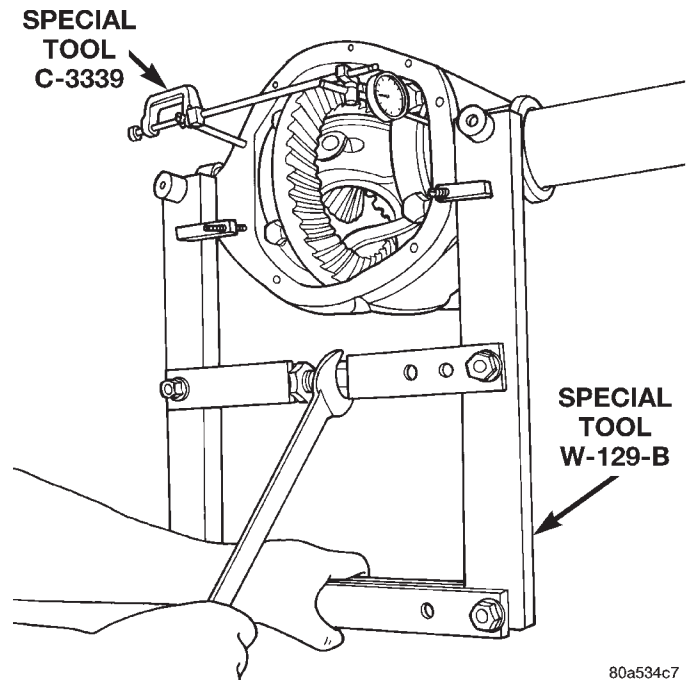
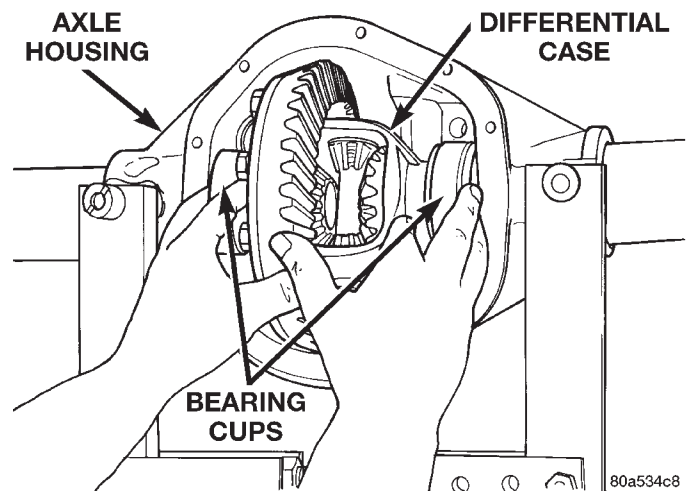
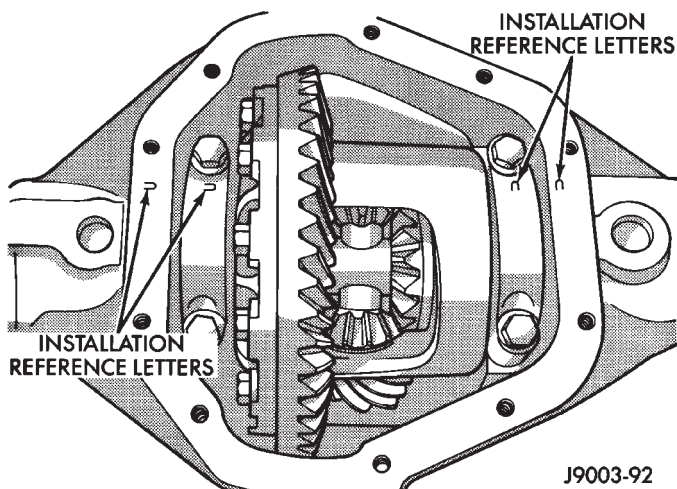

Fig. 34 Spread Axle Housing
Fig. 35 Differential Case Removal
Fig. 37 Differential Bearing Cap Reference Letters
(9) Spread the housing enough to remove the differential case from the housing. Measure the distance with the dial indicator (Fig. 34).
(10) Remove the dial indicator.
(11) While holding the differential case in position, remove the differential bearing cap bolts and caps.
(12) Remove the differential from the housing. Ensure that the differential bearing cups remain in position on the differential bearings (Fig. 35).
(3) Spread the housing enough to install the case in the housing. Measure the distance with the dial indicator (Fig. 34).
(4) Remove the dial indicator.
(5) Install differential case in the housing. Ensure that the differential bearing cups remain in position on the differential bearings and that the preload shims remain between the face of the bearing cup and the housing. Also verify that the pick-up opening of the Vari-lok™ plenum is at the bottom of the housing. Tap the differential case to ensure the bearings cups and shims are fully seated in the housing.
(6) Install the bearing caps at their original locations (Fig. 37).